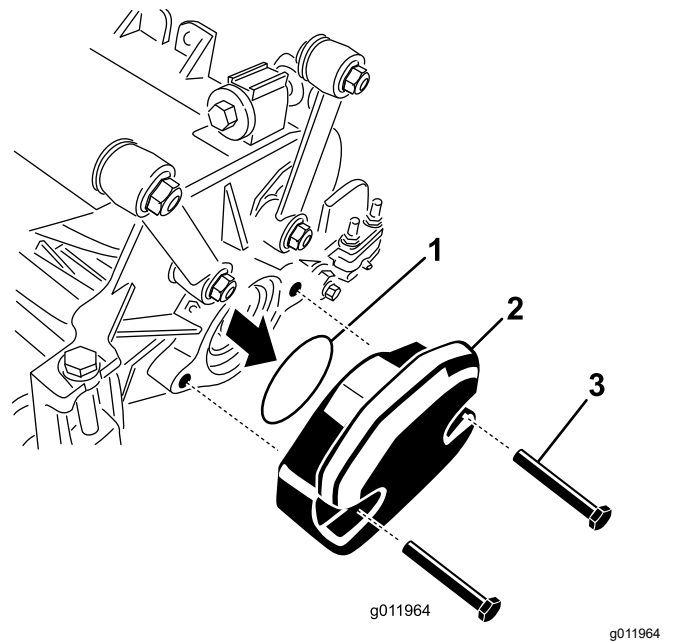

Figure 23
- Remove the weight and O-ring (Figure 23) from the inside end of the right cutting unit.